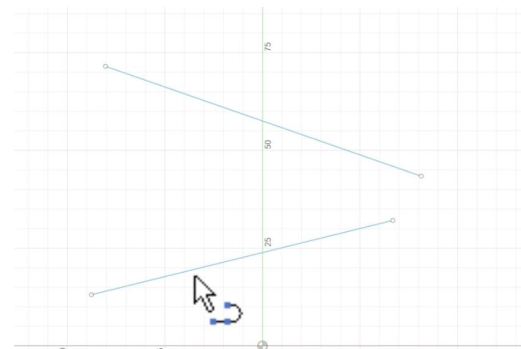

Figure 1.1
- If the sketch is blue, you are able to move it anywhere on the page, change the orientation, or angle. (see Figure 1.1)